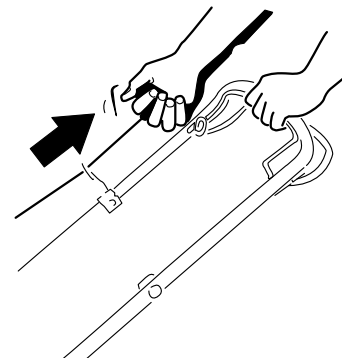

Figure 18
2. Pull the recoil-start handle (Figure 18) lightly until you feel resistance, then pull it sharply, and allow it to return to the rope guide on the handle slowly.